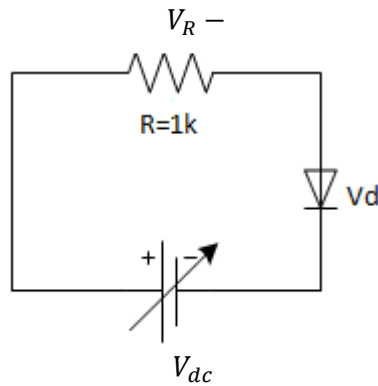

Figure 1.6: Diode forward biased configuration
2. Construct the circuit as shown in Figure 1.6.